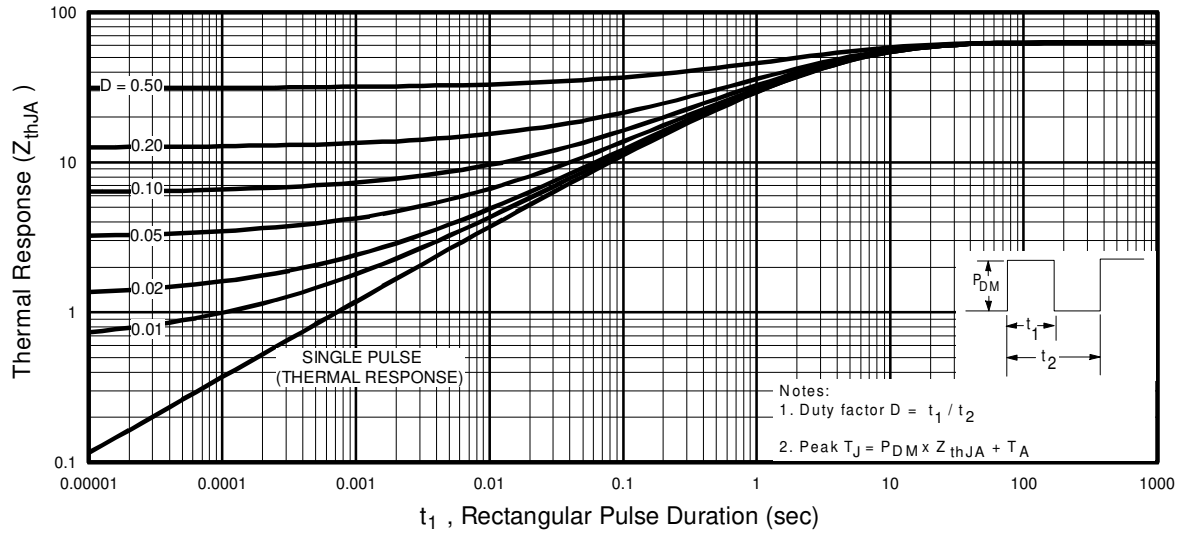

Fig 23. Maximum Effective Transient Thermal Impedance, Junction-to-Ambient
① Repetitive rating; pulse width limited by max. junction temperature. (See fig. 23)
② N-Channel I_{SD} ≤ 2.3A, di/dt ≤ 100A/μs, V_{DD} ≤ V_{(BR)DSS}, T_J ≤ 150°C